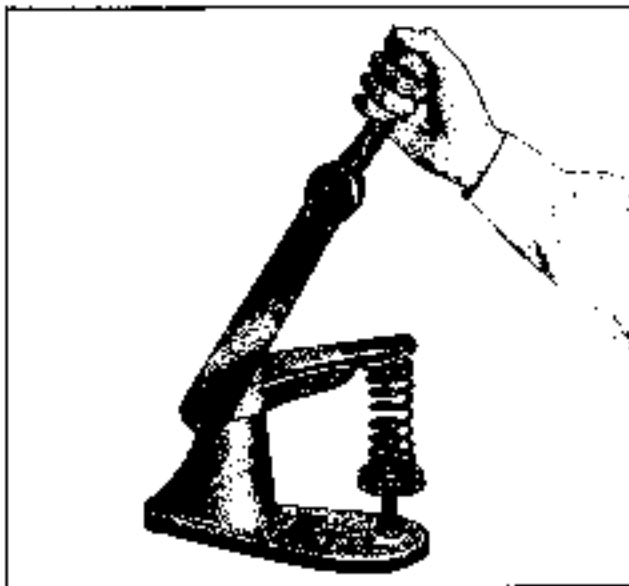

Fig. 1-81. Valve spring tester
a. Check all valve springs on a spring tester (Fig. 1-81) to make sure they meet specifications regarding weight and length. Springs, when compressed to "valve open" or "valve closed" length, must fall within specifications shown below when new, and must not show more than 10% loss to re-use.